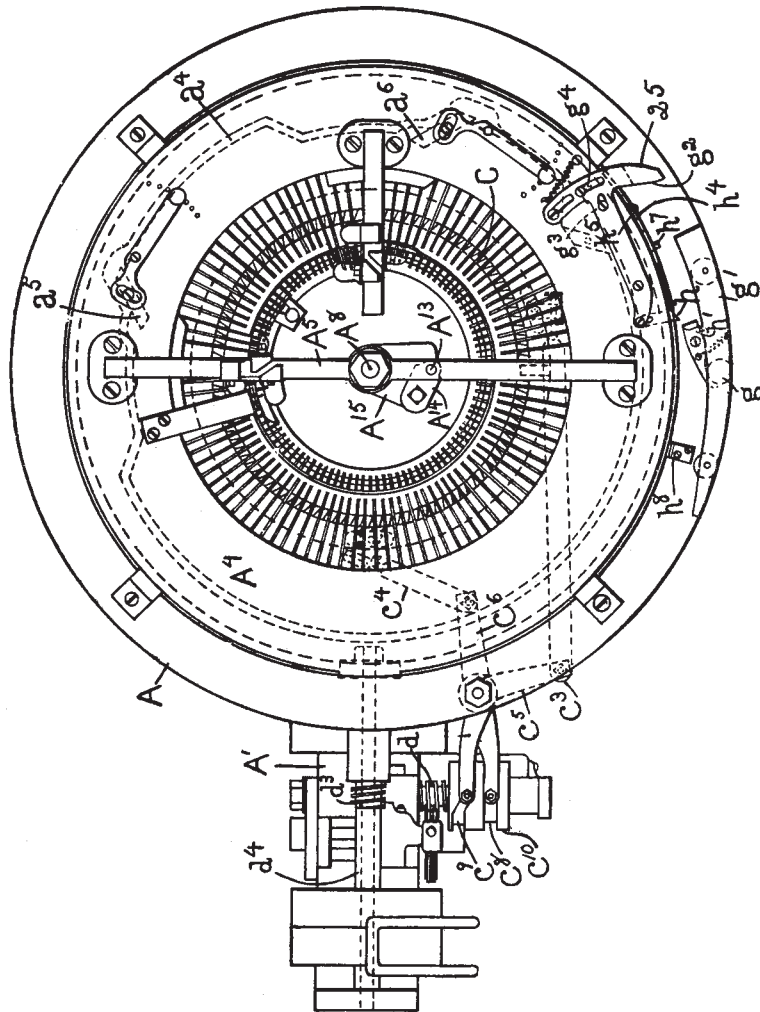

Fig. 93. Bed Plate and Driving Mechanism.
**Method of Driving.** The bed plate A, (Fig. 93), has the exten-
movable cams or projections  $a^5$   $a^6$  in the groove  $a^4$  actuate the dial needles in the stationary needle dial plate 3, which is a part of the bed plate A. (See also Figs. 93 and 94).
extension  $A^1$ , the gear being engaged and rotated by a worm  $d^3$ , carried by a sleeve  $d^4$ , fast on the continuously rotated driving shaft  $A^2$ . (See also Fig. 93).
When the cam plate is lifted, it is in position to be struck by the end 25 (Fig. 93) of the lever  $g^2$ , which, in its inward movement carries with it the cam  $g^3$ , pivoted to the dial needle plate at  $g^4$ , causing the plate in its new position to act on the butts of the dial needles, and move them inwardly far enough for their latches to pass through the loops on their shanks, so that the dial needles, when drawn back, are enabled to cast off the work previously held upon them. The movement of the lever to move the cam  $g^3$  into its extreme working position, also acts to push outwardly a stop  $h$ , so that it meets the catch  $h^1$ , which acted temporarily to engage in a notch and hold up the rod  $g$ , letting the rod and cam  $g^1$  immediately drop. When the lever  $g^2$  is pushed in, it should be held in for one rotation of the dial plate, and to do this, is provided the latch  $h^4$ , pivoted on the dial cam plate at  $h^5$ , and kept in place by a spring. The latch at its opposite end, has a heel, which in the rotation of the dial cam plate, meets the top of an inclined lug  $h^8$ , which immediately effects the release of the lever  $g^2$ , letting the spring draw it back into its normal position, after the separating course is made.